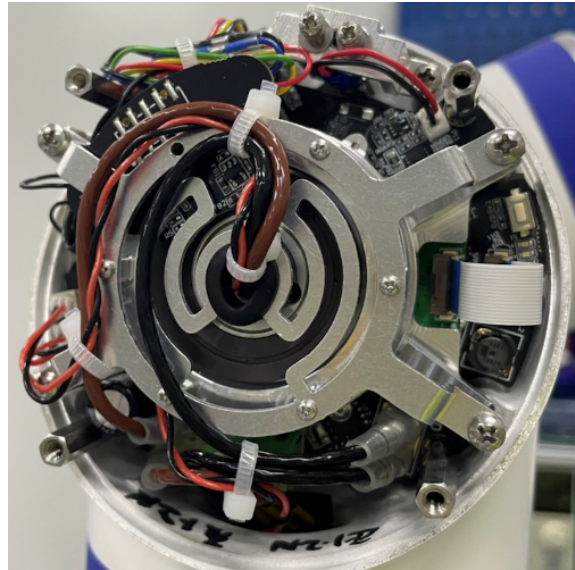

Figure 3-19 : Wiring and tying
- Tie the wires with heat shrink tubes onto the wire guard to prevent detachment or displacement. Connect the brown wire to positive pole and black wire to GND pole. Plug the 485 wire into the specified port. The wires excess the necessary length need to be wrapped around the wire track and zip tied to keep in proper position as shown in **Figure 3-19** :